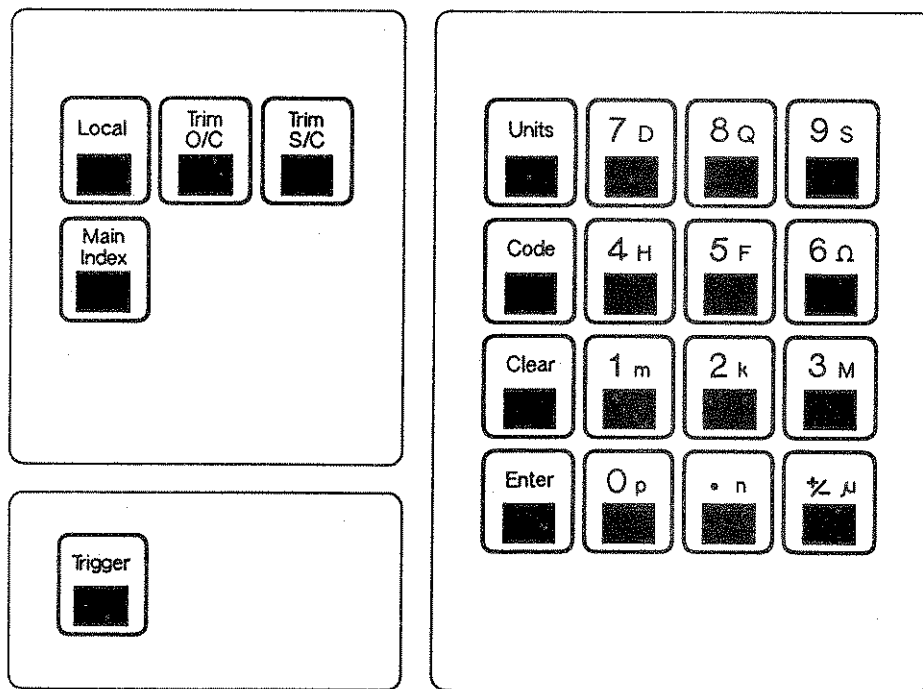

Figure 7 Main Function Keys and Key-Board
1. Press MAIN INDEX to display the operating modes. Any may be selected by pressing the button adjacent to its displayed legend. The key-board, figure 7, is for entry of data not otherwise selected.